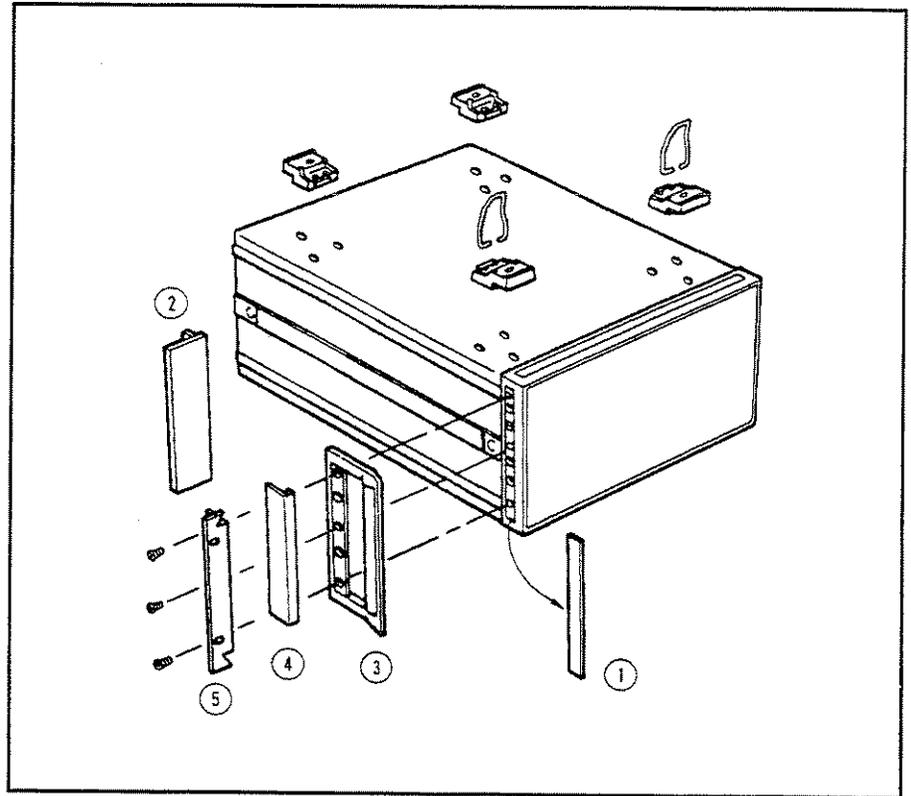

Figure 1-3. Rack Mount Kits Installation
The analyzer can be rack mounted and used as a component in a measurement system. Figure 1-3 shows how to rack mount the HP 4284A.
1. Remove the adhesive-backed trim strips ① from the left and right front sides of the HP 4284A. (Refer to Figure 1-3.)
2. Attach the front handles ② to the sides using the screws provided.
3. Attach the trim strips ③ to the handles.
2. Attach the rack mount flange ④ to the left and right front sides of the HP 4284A using the screws provided.
3. Remove all four feet ⑤ (lift bar on the inner side of the foot, and slide the foot toward the bar.)